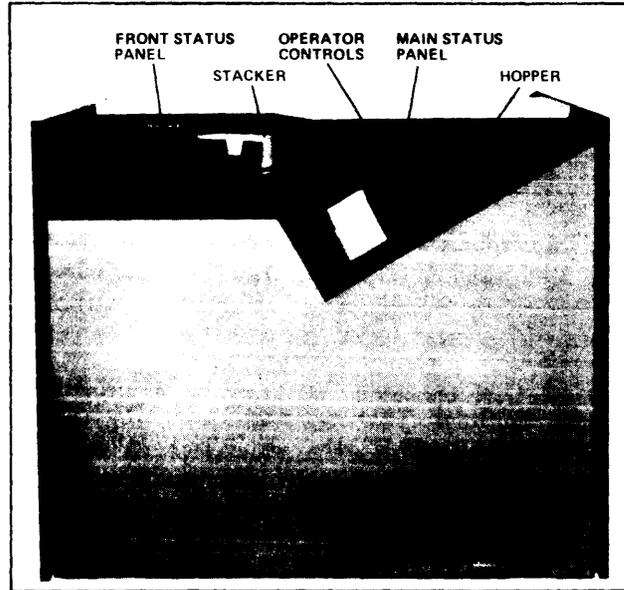

Figure C-2
The operator control panel on the card reader consists of (1) a main status panel and (2) a front status panel. On the right is the main status panel with alert indicators. Above that are the operator controls for turning the machine power on and off along with other operator functions. There are also display lights to indicate device state. On the left is the front status panel with its alert indicators (Figure C-2 shows the position of these panels.)